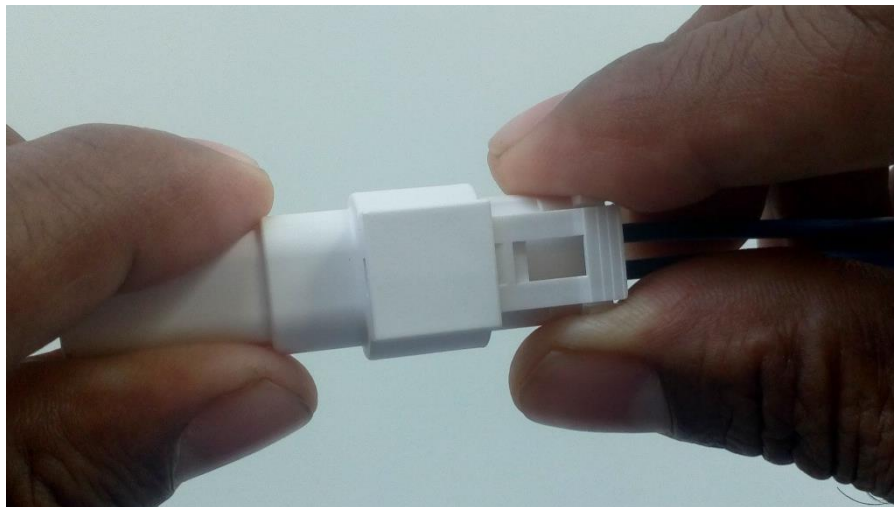

Figure 15
- Hold the plug connector assembly and receptacle connector assembly as shown in figure 15. Align connector system latch features and begin mating process along the same axis.